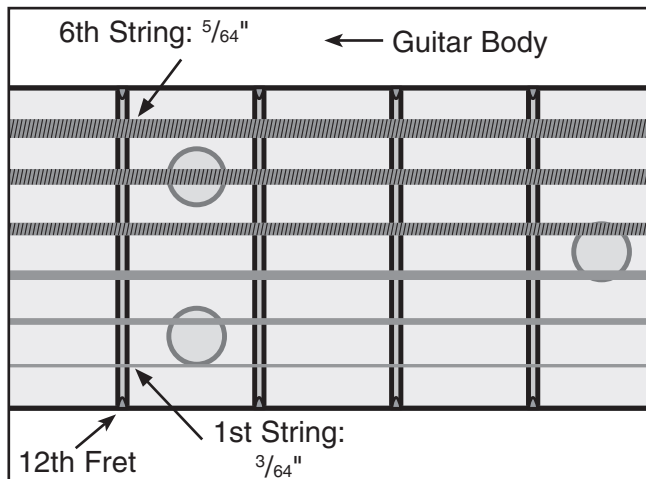

Figure 36. Correct 12th fret string heights.
2. Measure the string height at the twelfth fret as shown in **Figure 36**.